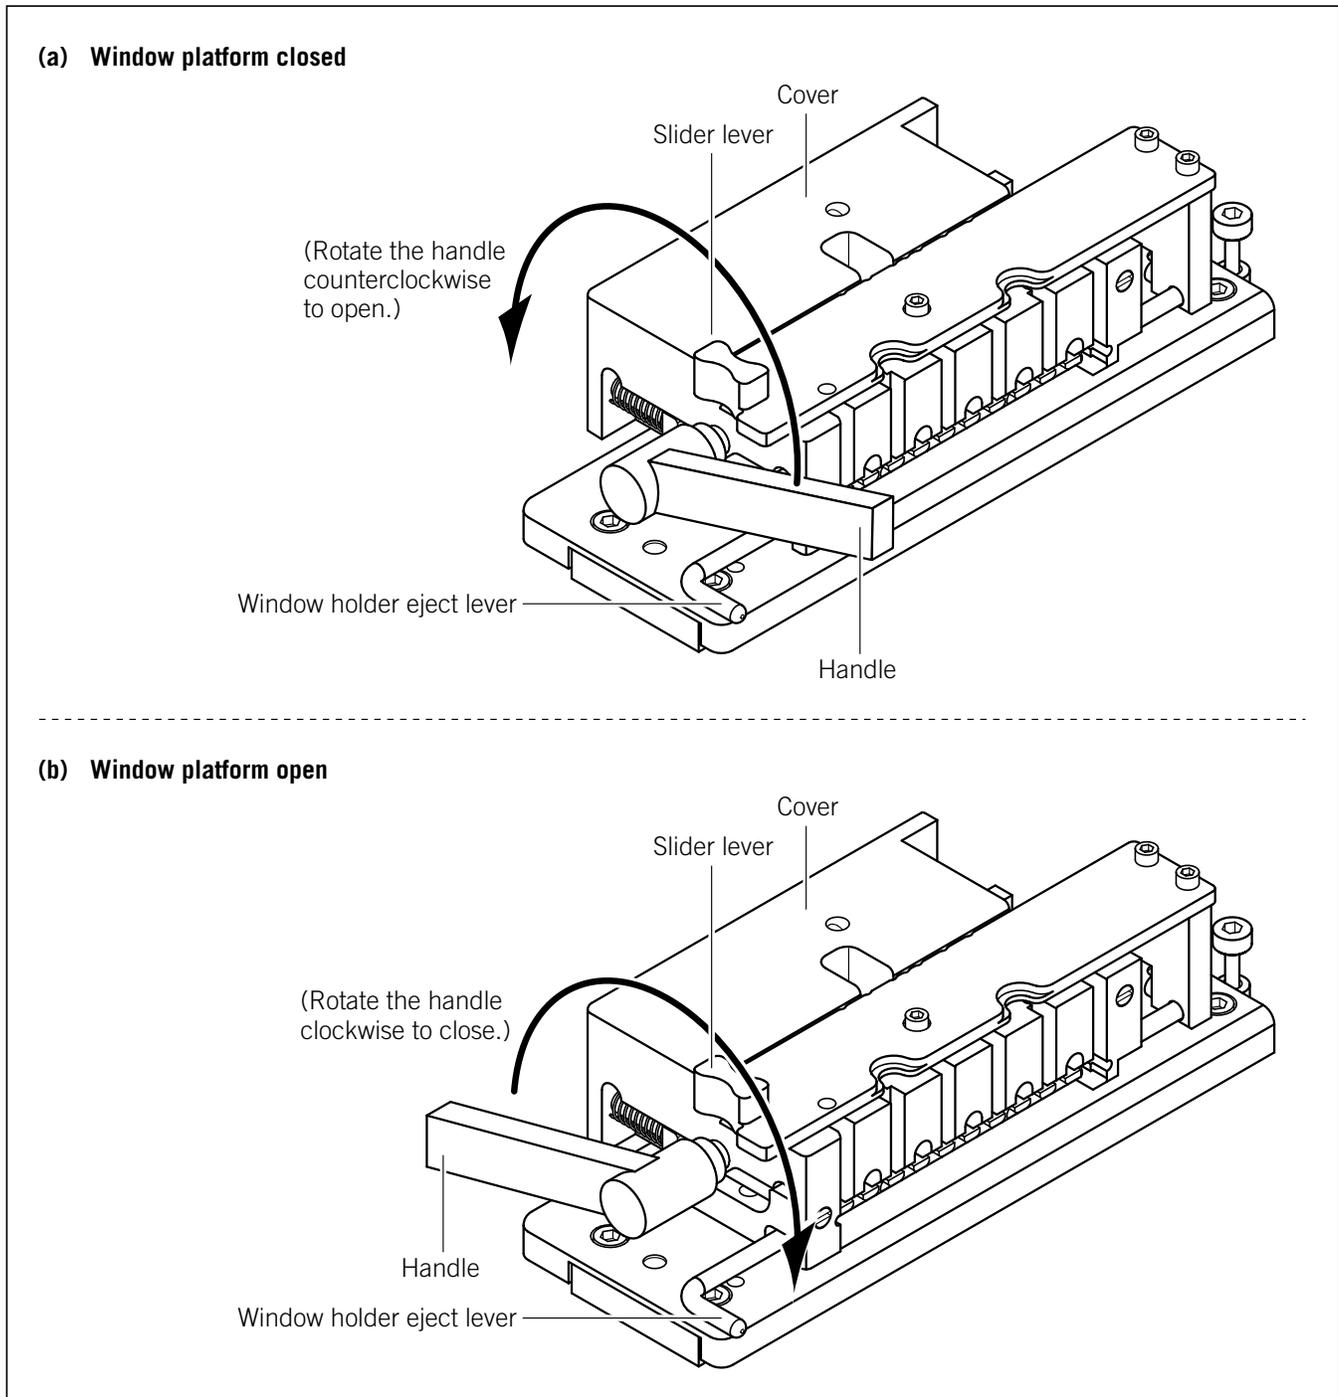

Figure 19-6. The window platform: (a) closed position and (b) open position.
3. Rotate the handle at the front of the window platform counterclockwise to the open position (figure 19-6). The window platform moves to the left, away from the scanning face.
8. Holding the plastic window holder in your left hand and the handle of the anode plug in your right hand, gently lower the window holder into the slot, making sure that the rounded portion of the window holder fits into the round slot (figure 19-6).